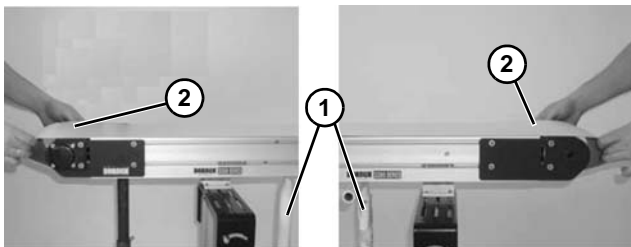

Figure 58
1. Ensure temporary support stands (**Figure 58, item 1**) are placed at both ends of the conveyor.
3. Install belt (**Figure 58, item 2**) on conveyor. Lift conveyor slightly to avoid pinching belt on temporary support stands.